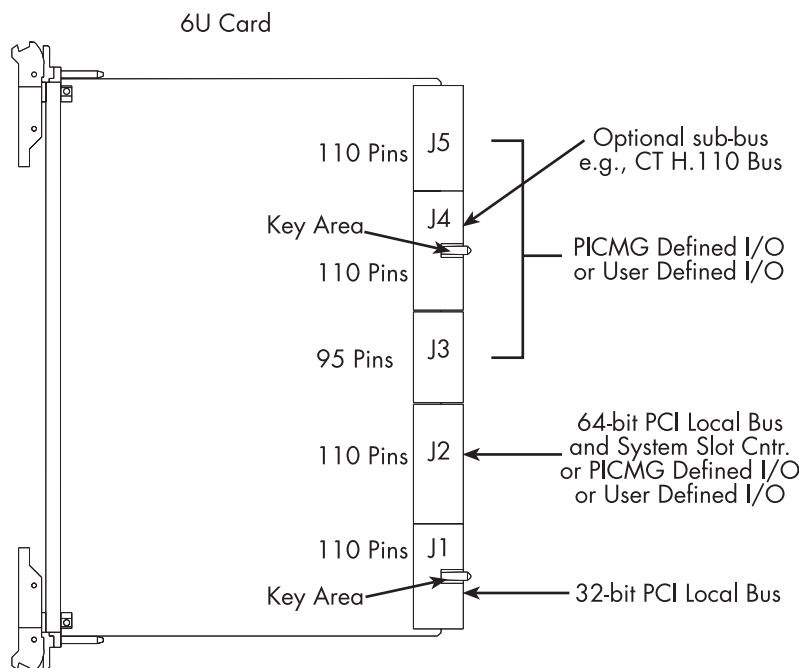

Figure 11. J1 through J5 connectors on the 6U card
- 6U cards—J1-J5 (see figure 11)